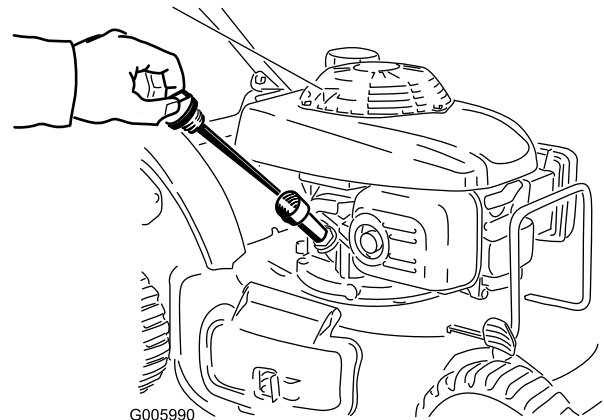

Figure 12
1. Remove the dipstick (Figure 12).
2. **Slowly** pour oil into the oil fill tube, periodically checking the level with the dipstick, until the dipstick indicates that the engine is full as illustrated in Figure 12. **Do not overfill.** (Max. fill: 20 oz. (0.55 l), **type: SAE 30W detergent oil** with an API service classification of SH, SJ, SL, or higher.)